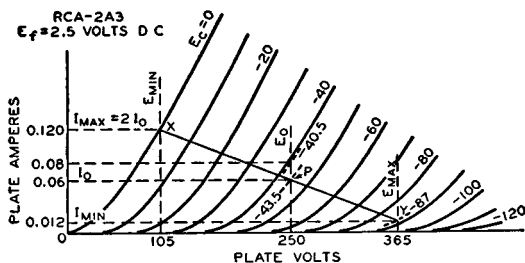

Fig. 21
Calculation of the power output of a triode used as a class A amplifier with either an output transformer or a choke having low dc resistance can be made without serious error from the plate family of curves by assuming a resistance load. The proper plate current, grid bias, optimum load resistance, and per-cent second-harmonic distortion can also be determined. The calculations are made graphically and are illustrated in Fig. 21 for given conditions. The procedure is as follows: (1) Locate the zero-signal bias point P by determining the zero-signal bias E_{c0} from the formula:
Example: Determine the load resistance, power output, and distortion of a triode having an amplification factor of 4.2, a plate-dissipation rating of 15 watts, and plate characteristics curves as shown in Fig. 21. The tube is to be operated at 250 volts on the plate.